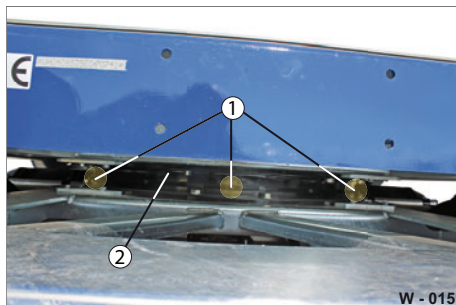

Fig. 16 Lubricating ball swivel bearing
- Clean the lubrication nipple and the bearing gap (Fig. 16/2) with a clean cloth.
- Lubricate the ball swivel bearing (with rolling bearing lubrication) on the lubrication nipple (Fig. 16/1) with a grease gun until lubricant escapes from the bearing clearance.